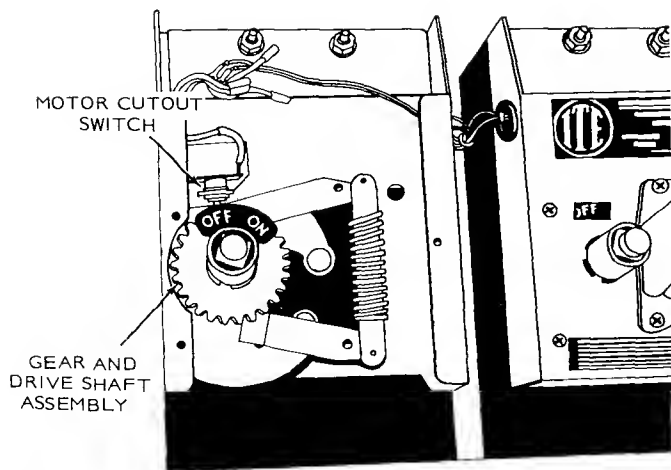

FIGURE 21. GEAR AND DRIVE ASSEMBLY OF TRANSFER SWITCH
15. Remove the Phillip screws previously loosened, grab hold of the small panel, gear and drive shaft assembly, and pull straight out (Figure 21).